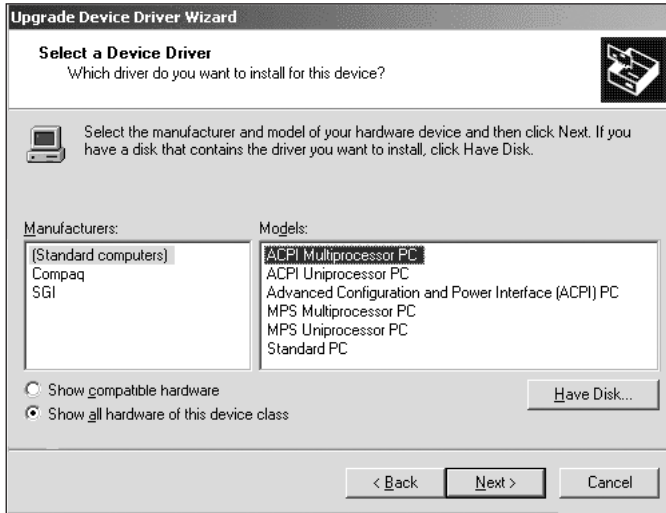

Figure 6-11 Choose ACPI Multiprocessor PC or MPS Multiprocessor PC as it applies
9. Select the Show all hardware of this device class option. The screen shown in Figure 6-11 appears.